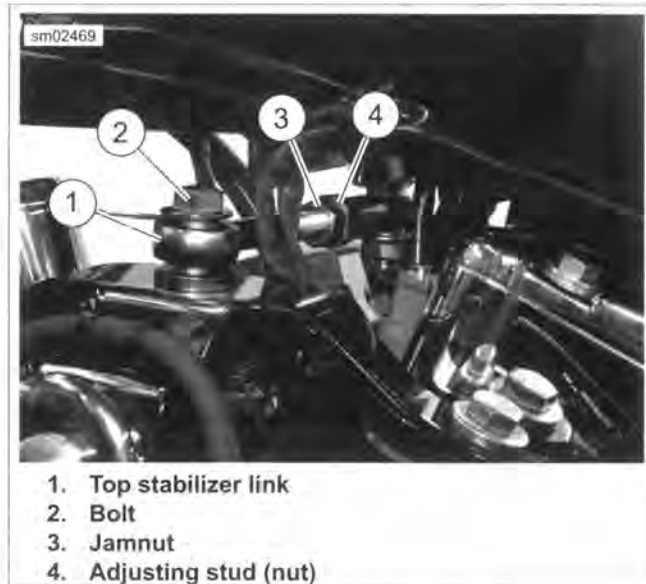

Figure 2-50. Top Stabilizer
- See Figure 2-50. Remove the bolt (2) which attaches the top stabilizer link (1) to the engine mounting bracket.